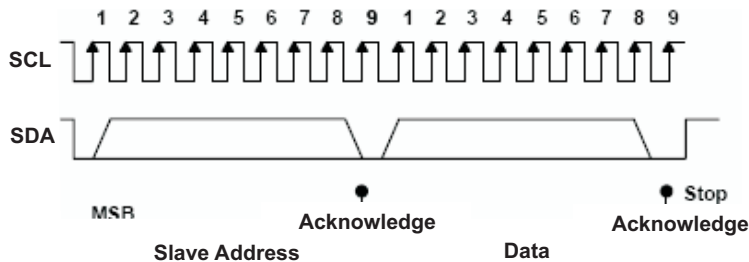

Figure 26. I2C Address and Data Cycles
- The master generates further SCL cycles to transmit data to the slave (R/W bit 0) or *receive* data from the slave (R/W bit 1). In either case, the *receiver* needs to acknowledge the data sent by the *transmitter*. So an acknowledge signal can either be generated by the master or by the slave, depending on which one is the receiver. The 9-bit valid data sequences consisting of 8-bit data and 1-bit acknowledge can continue as long as necessary (see Figure 26).
- To signal the end of the data transfer, the master generates a *stop condition* by pulling the SDA line from low to high while the SCL line is high (see Figure 26). This releases the bus and stops the communication link with the addressed slave. All I2C compatible devices must recognize the stop condition. Upon the receipt of a *stop condition*, all devices know that the bus is released, and they wait for a *start condition*, followed by a matching address.